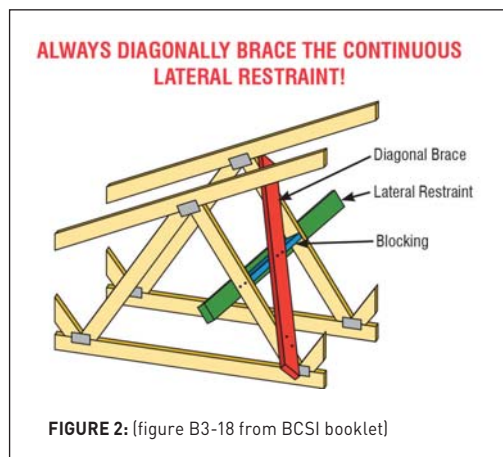
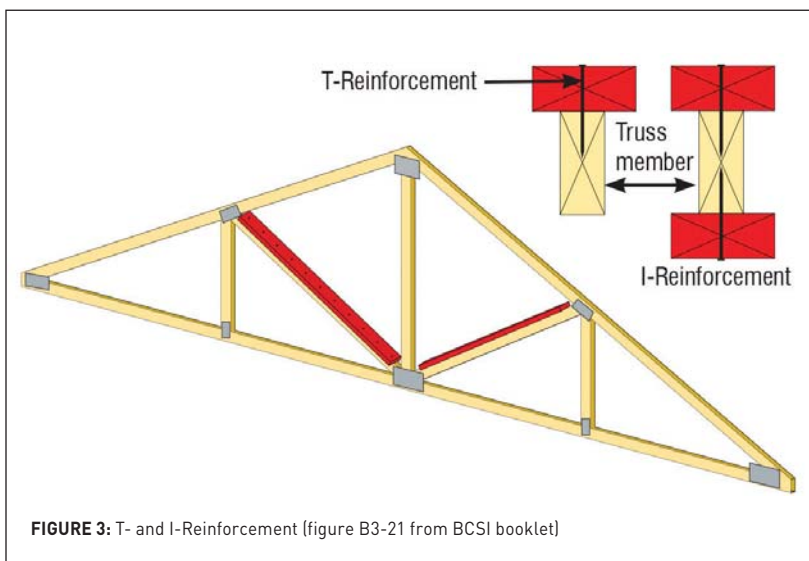
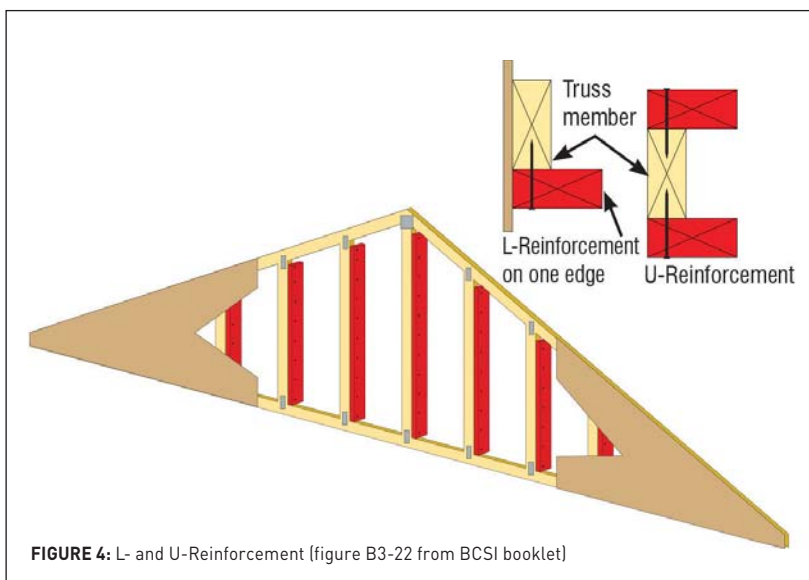

FIGURE 2: (figure B3-18 from BCSI booklet)
FIGURE 3: T- and I-Reinforcement (figure B3-21 from BCSI booklet)
FIGURE 4: L- and U-Reinforcement (figure B3-22 from BCSI booklet)
**ANSWER:** T-reinforcement takes the place of continuous lateral restraint (Figure 2). With T-reinforcement, the web in question must be reinforced along approximately 90 percent of its length or extend to within 6 inches of the end of the member, whichever is greater. The reinforcing material is applied to the web such that in cross section it forms a “T” with the web (Figure 3). Other variations on this type of reinforcement are I-reinforcement (Figure 3), L-reinforcement (Figure 4), U-reinforcement (Figure 4) and scab reinforcement (Figure 5).